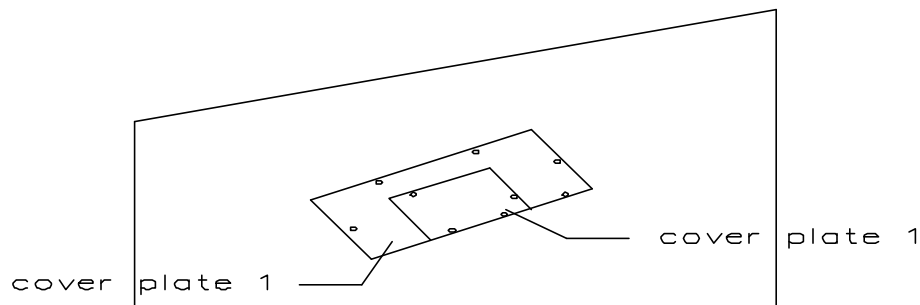

Fig.3 Panel plates 1 & 2
3. From the plenum side remove the internal cover plate. Save sheet metal screws. Discard cover plate (for 4 & 5 ton units remove cover plates 1 & 2 see fig. 3).